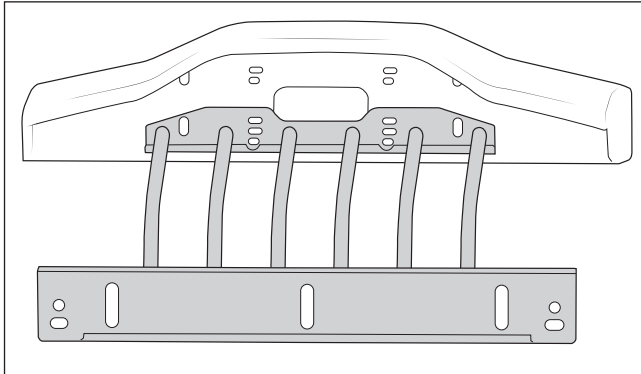

Figure 5
- A. For 2019+ trucks, the rearward hole on the bumper will be used (fig. 5).